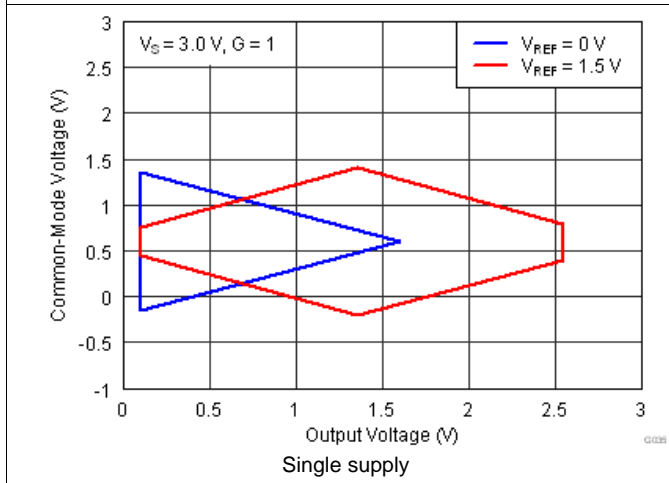
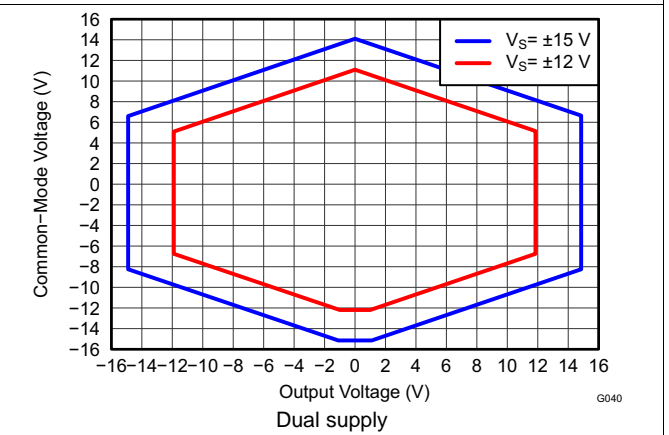

Figure 9. Input Common-Mode Voltage vs Output Voltage
Figure 16. Input Common-Mode Voltage vs Output Voltage
(1) Total offset, referred-to-input (RTI): $V_{OS} = (V_{OSI}) + (V_{OSO} / G)$.
(2) Input voltage range of the INA826 input stage. The input range depends on the common-mode voltage, differential voltage, gain, and reference voltage. See *Typical Characteristic* curves Figure 9 through Figure 16 and Figure 41 through Figure 44 for more information.